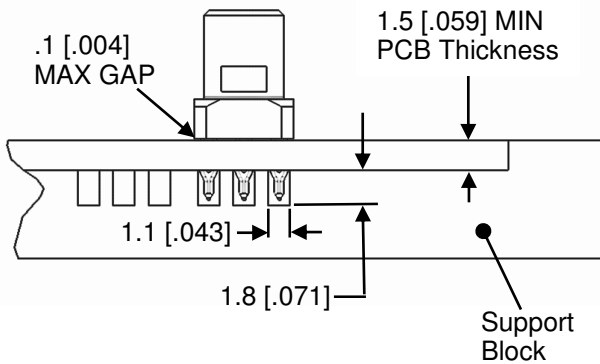

Figure 3: Support Block and Connector Installation.
Customer supplied tooling for seating the SMPM Plug assemblies shall be designed using the dimensions provided in figures 3, 4 and 5.
- Inspect the mounted connector in accordance with figure 3. The housing should be flush to .1 [.004] above the surface of the PCB.